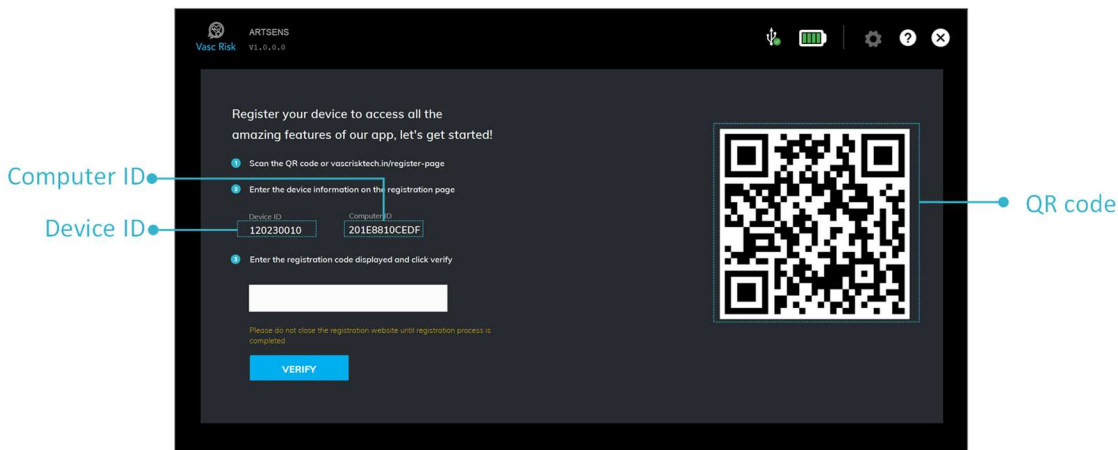

Fig.15. Device Registration Page
1. The device registration page, as shown in fig. 15, is displayed along with the necessary instructions.